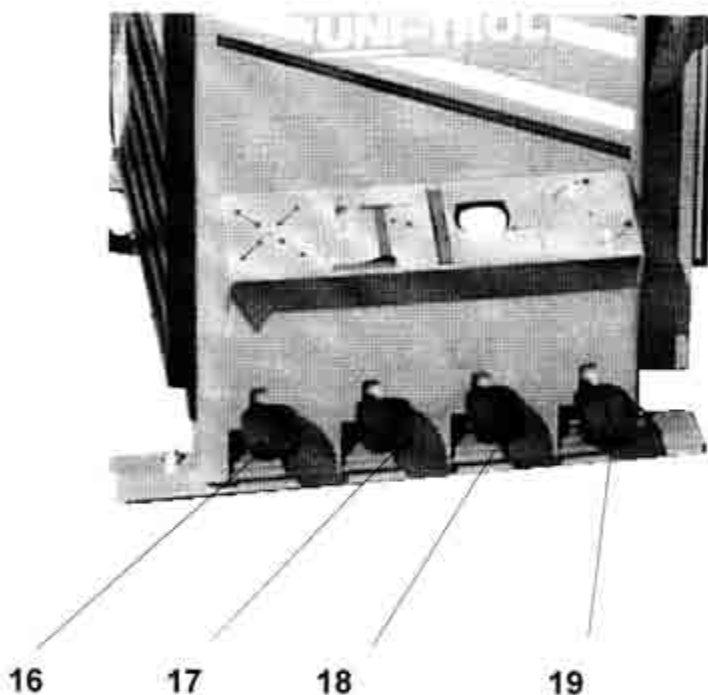

Fig 4 Control pedals
After connecting to the power supply, check the sense of rotation of the motor: after depressing table rotation pedal (item 19 fig 4) the worktable should rotate clockwise. If the table rotates anticlockwise interchange two phase wires in the plug.